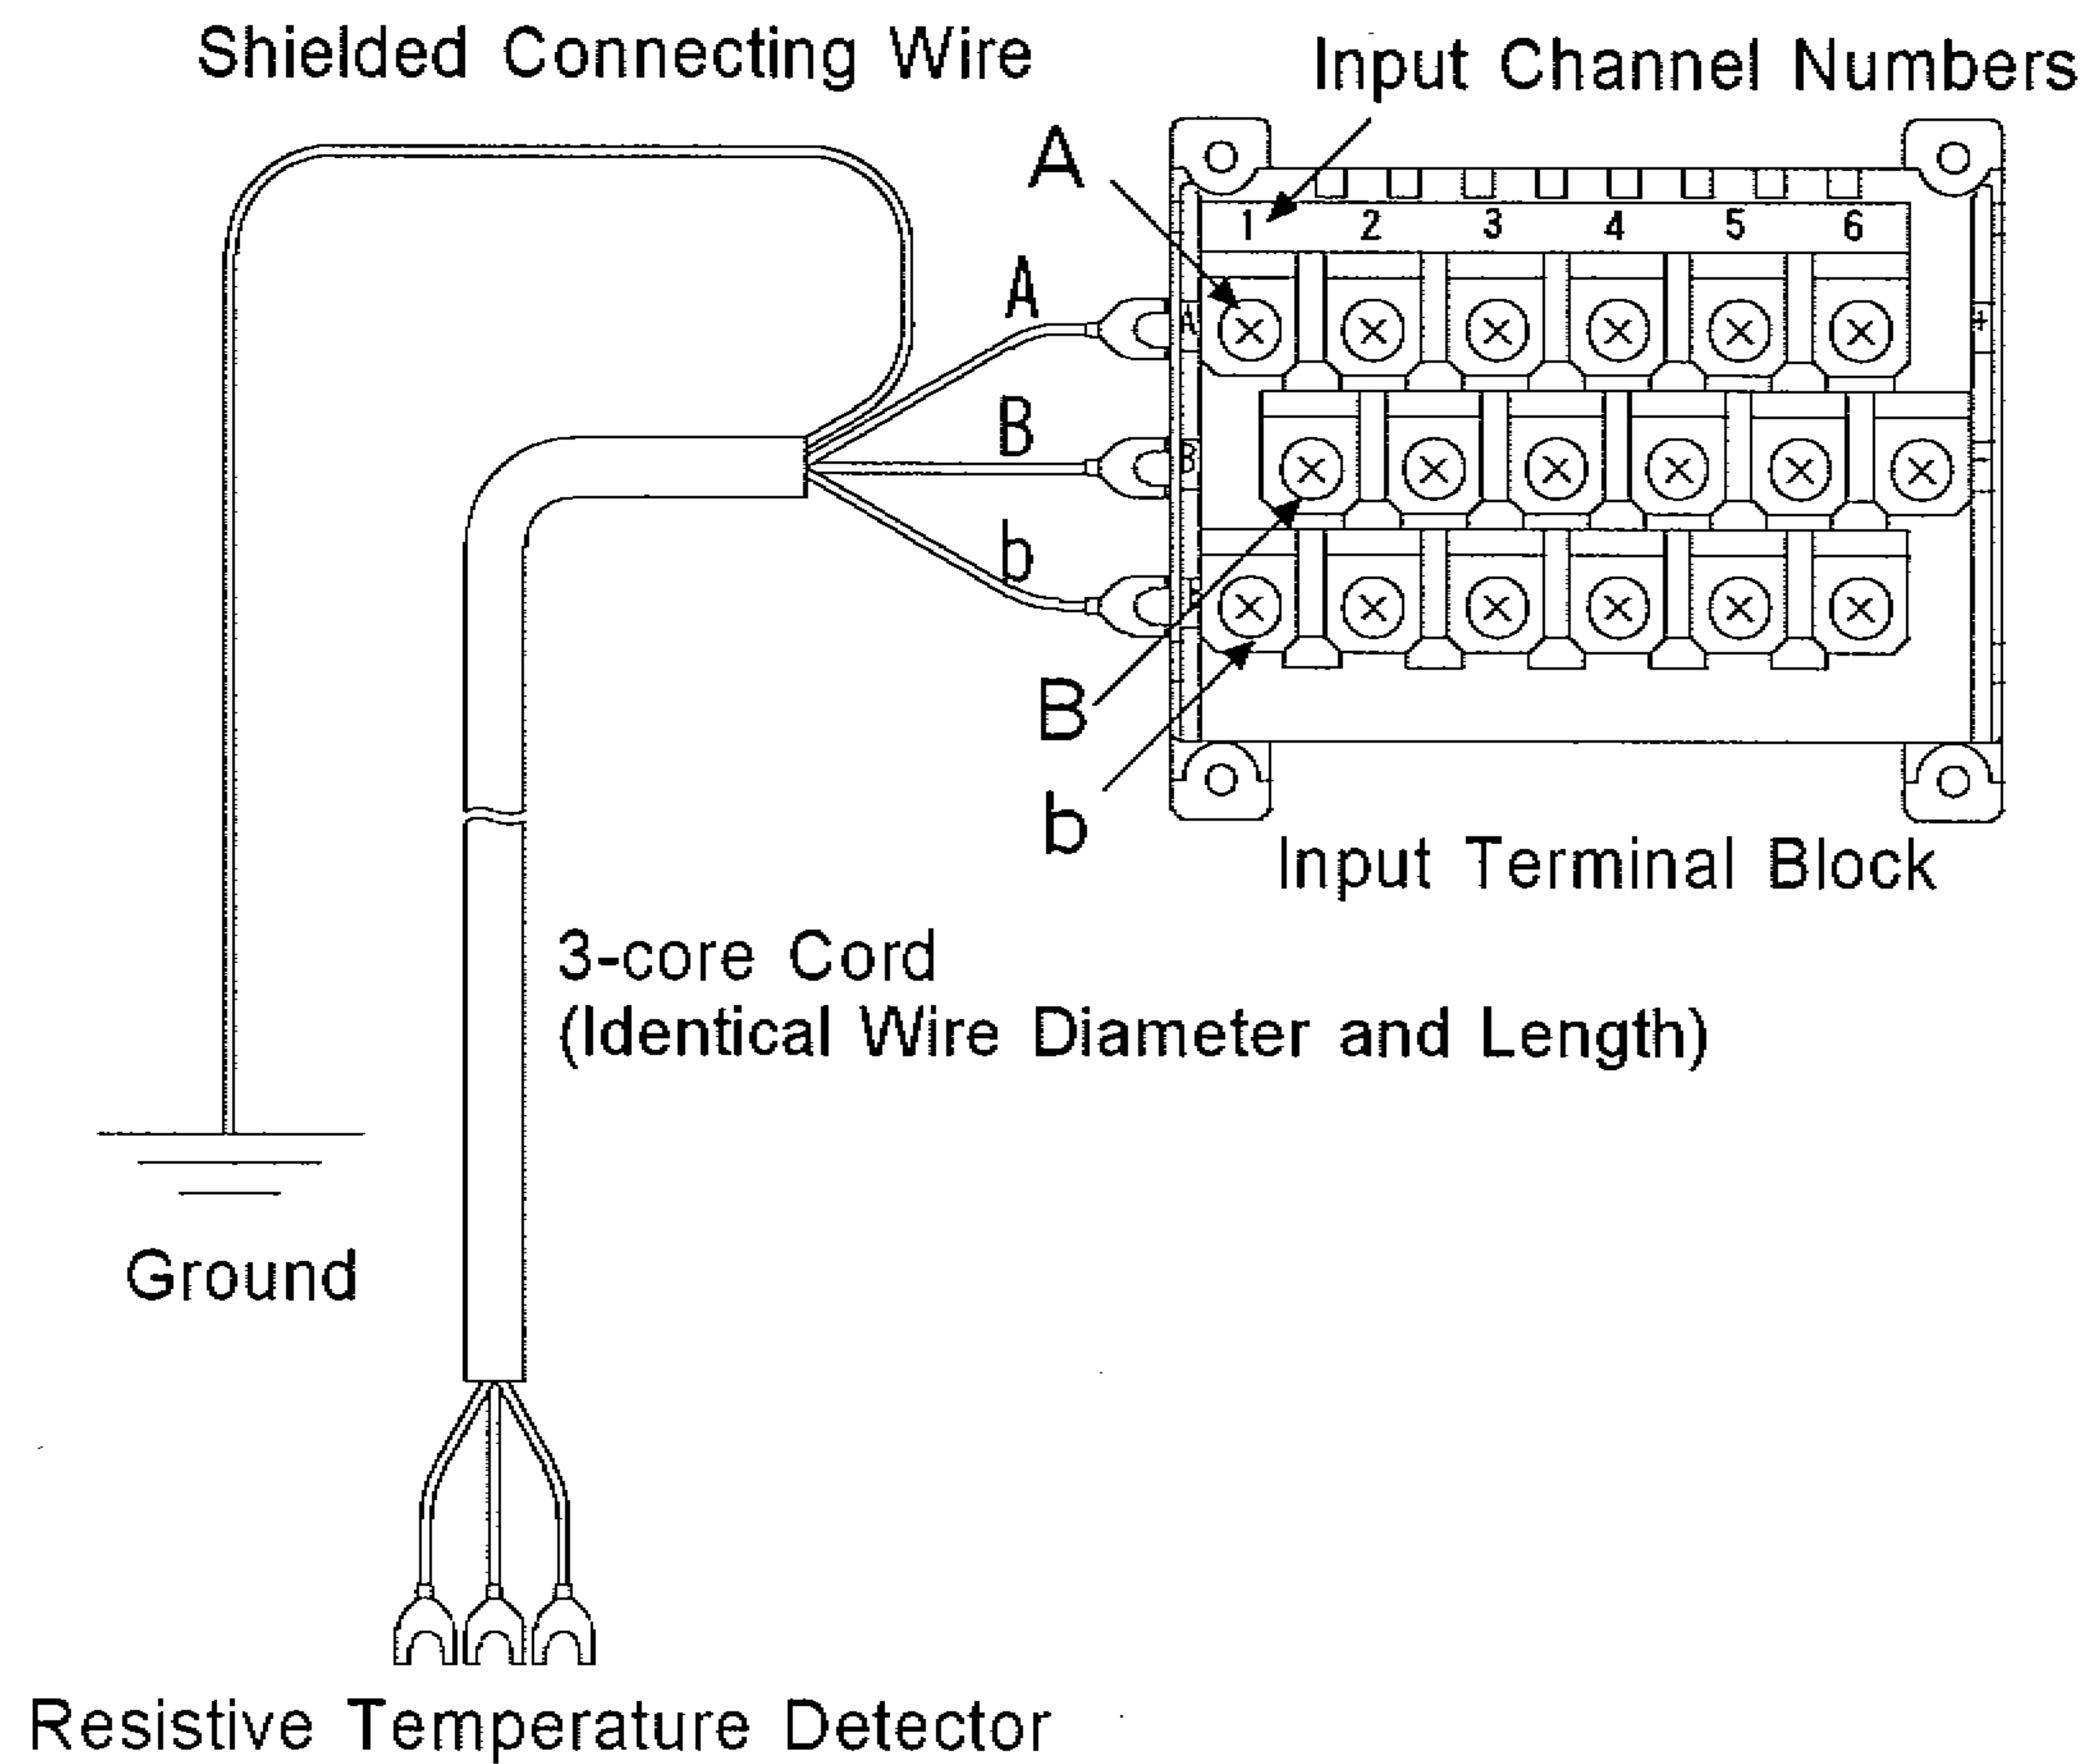
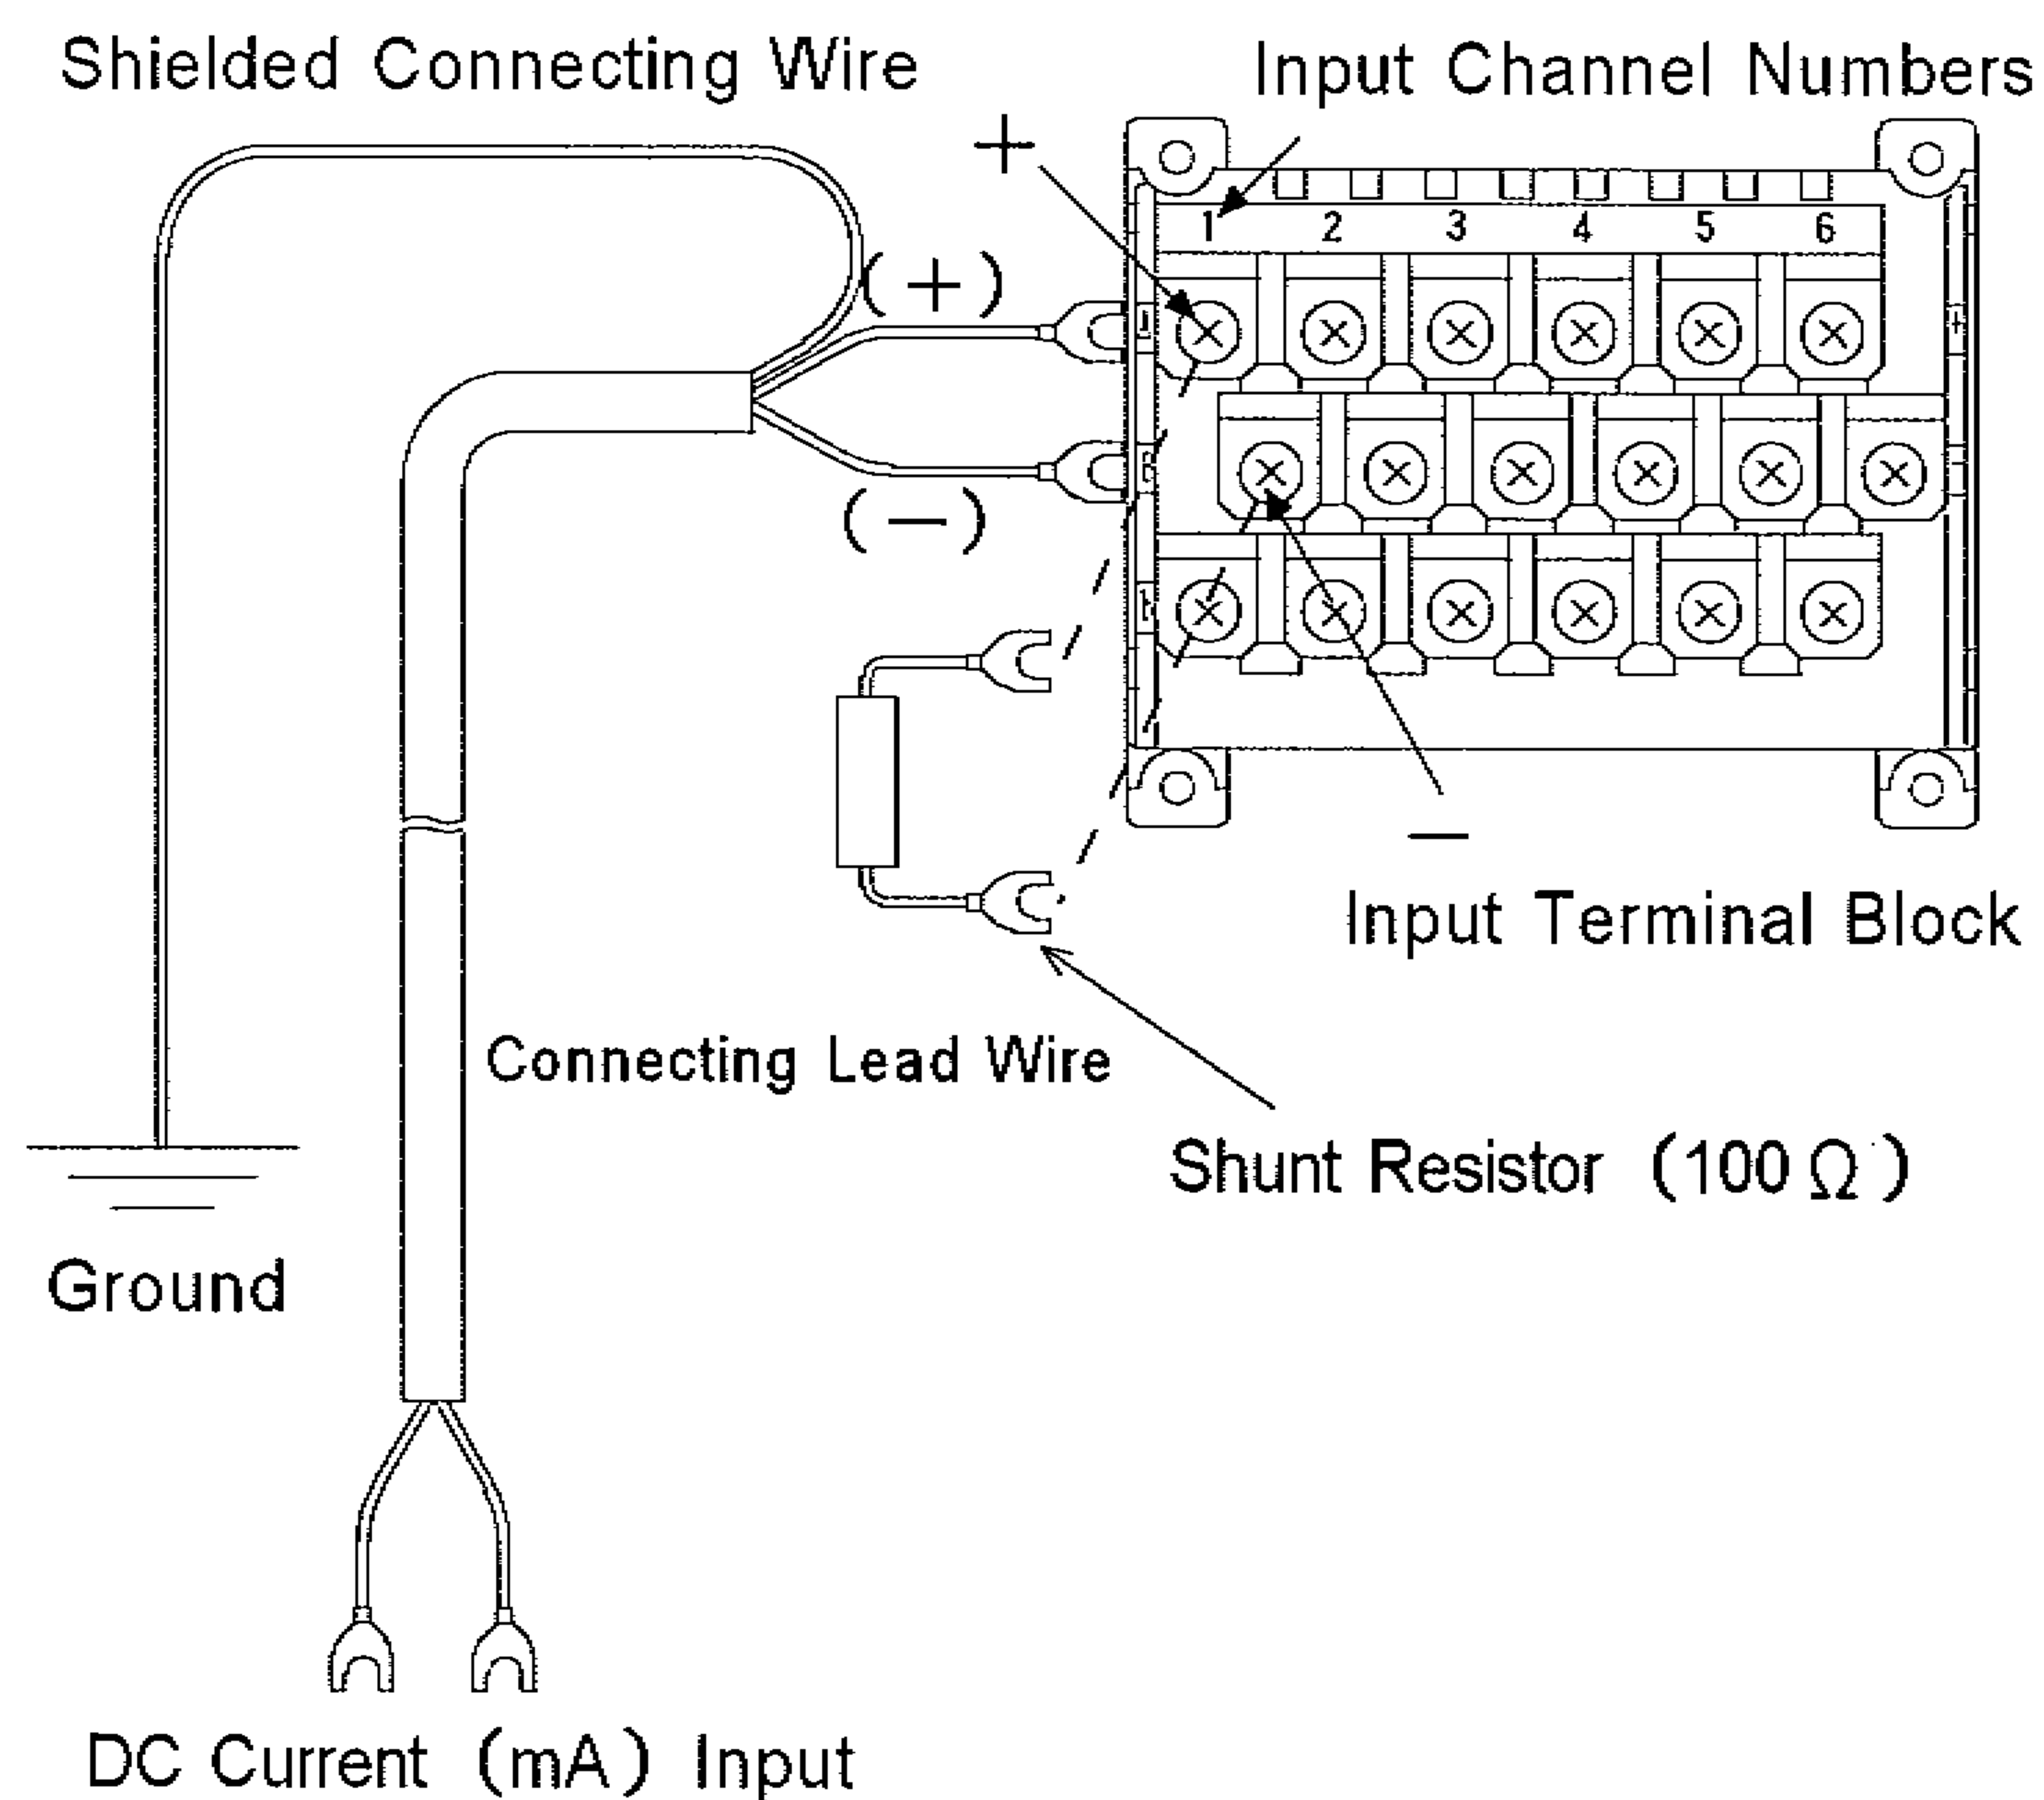

Fig. 4.4 Input Wiring (For Resistive Temperature Detector)
Fig. 4.5 Input Wiring (For mA Input)
- ① Turn off the power of the instrument.
- ② Remove the rear cover of the input terminal block.
- ③ Wire the input lines according to the wiring examples shown in Fig. 4.3, Fig. 4.4 (Page 14) , and Fig. 4.5 (Page 14) .
- ④ Put back the rear cover.